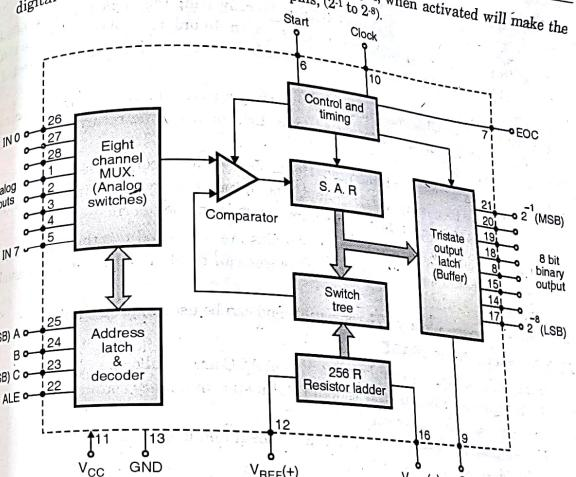
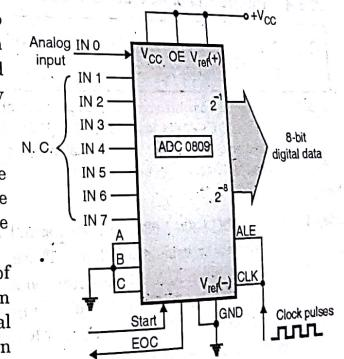

Fig. 20.3.2 : Functional block diagram of IC ADC 0809
Fig. 20.3.3 : Typical connection diagram of ADC 0809
As shown in the functional block diagram of ADC 0809 (Fig. 20.3.2), the address latch enable (ALE) input is useful in enabling the address latch which stores the
The functional block diagram of ADC 0809 is shown in Fig. 20.3.2. The ADC 0809 consists of an eight channel MUX (Analog switches), a Comparator, a Switch tree, a 256 R Resistor ladder, a SAR, a Control and timing section, and a Tristate output latch (Buffer).
The functional block diagram of ADC 0809 is as shown in Fig. 20.3.2 and the typical connection diagram is as shown in Fig. 20.3.3.
- (i) Fig. 20.3.3 shows the connection diagram for converting the analog input connected to IN 0. All the other analog inputs are left open. In order to select IN 0, the status of address lines ABC should be 000. Therefore these pins have been connected to ground.
- (iii) The positive reference is being used. Hence V_{REF} (+) has been connected to V_{CC} and V_{REF} (-) has been connected to ground. The output enable (OE) pin also has been connected to V_{CC} so that the tristate output latch is enabled permanently.